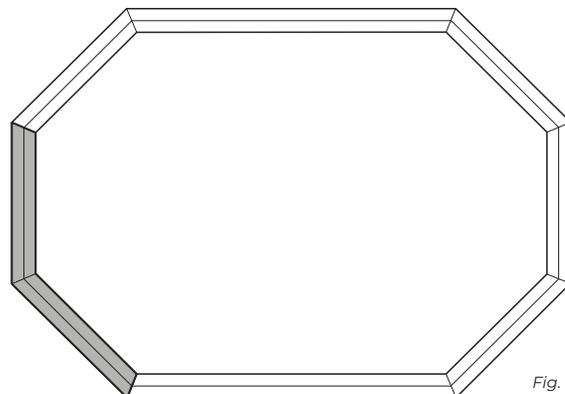

Fig. 19
- Position the surrounds (fig.19)